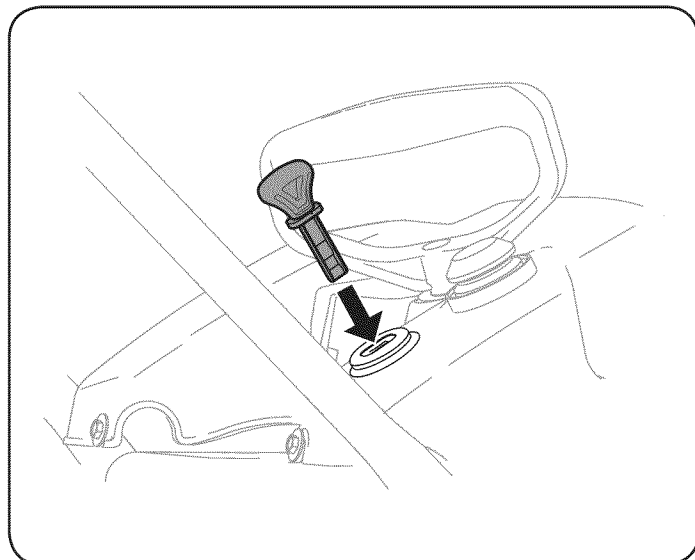

Figure 7
1. Insert the key into the slot. See Figure 7. Do not attempt to turn the key. Doing so may cause it to break.